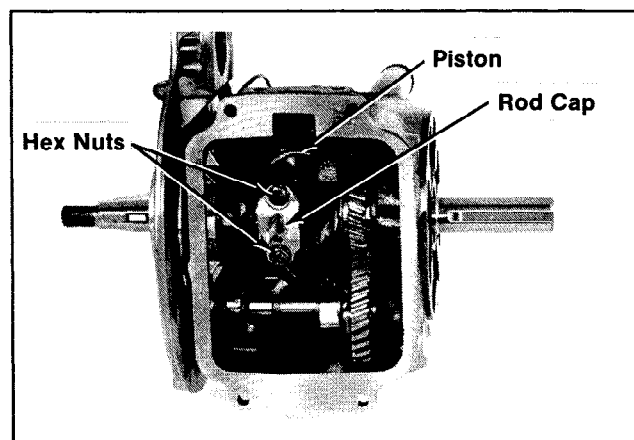

Figure 10-5. Removing Connecting Rod And Piston.
1. Remove the connecting rod cap. Refer to Figure 10-5.